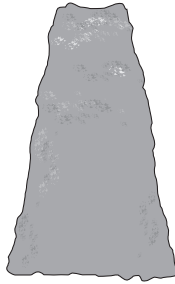

Fig. 31
**NOTE:** When shaping it is advisable to achieve a trapezoidal shape (Fig. 31). A trapezoidal cut corresponds to the natural growth of plants and results in optimal hedge growth, as it will expose more light to the lower end of the hedge.